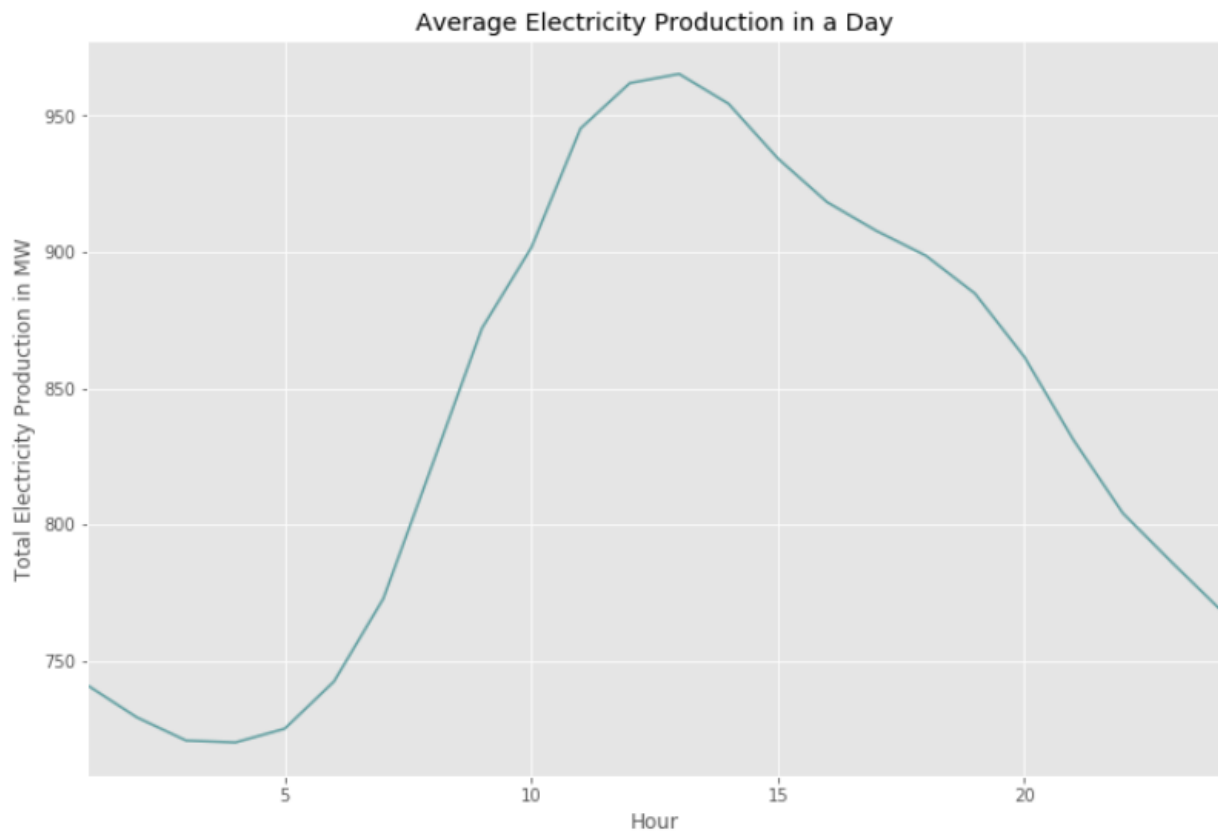

Fig:3: Average of Total Electricity Produced in a Day
From fig:3 below we can find the answers to why the carbon footprint is changing throughout the day:
2. The average carbon footprint from 5:00-11:00 (morning) is higher than night. This is primarily because production increases significantly in this time (refer to fig:3). In the morning people begin to resume all their activities; hence using a lot of electricity at this time. Electricity demand increases, therefore supply increases. Hence production is generally higher this time. If we refer to table:1 we can also see that from 5:00-11:00 the production from non-green sources are also increasing. Hence the rise in carbon footprint.